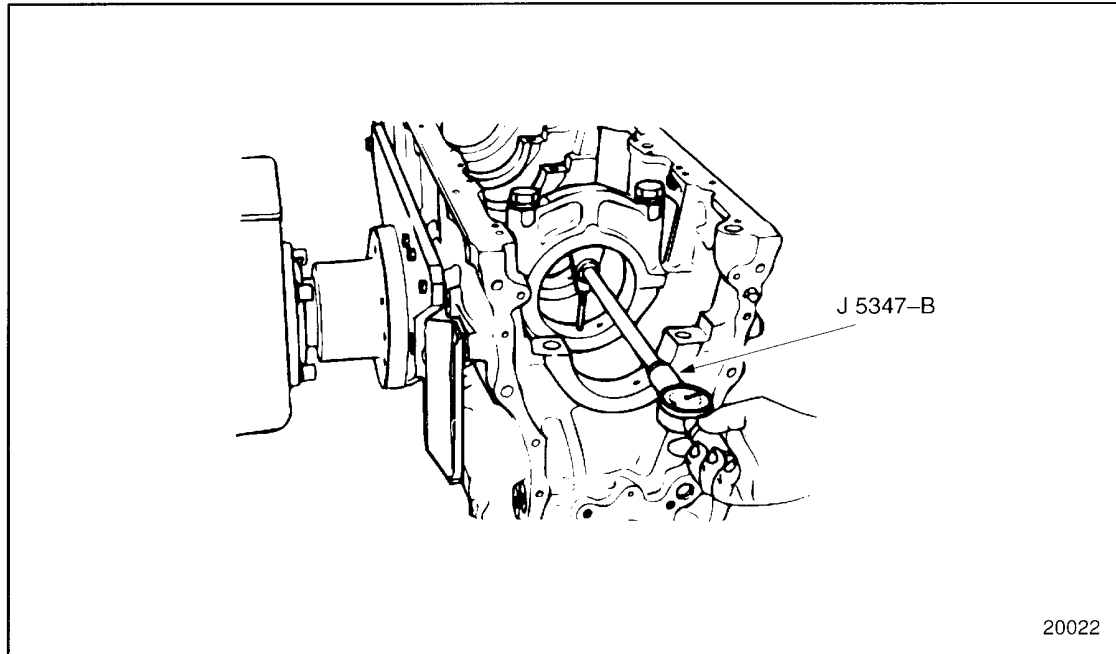

Figure 1-15 Gaging Main Bearing Bores
3. Measure the main bearing bores using dial bore gage J 5347-B which has a dial indicator calibrated in 0.0001 in. increments. Set the cylinder bore gage on zero in master setting fixture, J 23059-01 part of J 23059-4. See Figure 1-15.